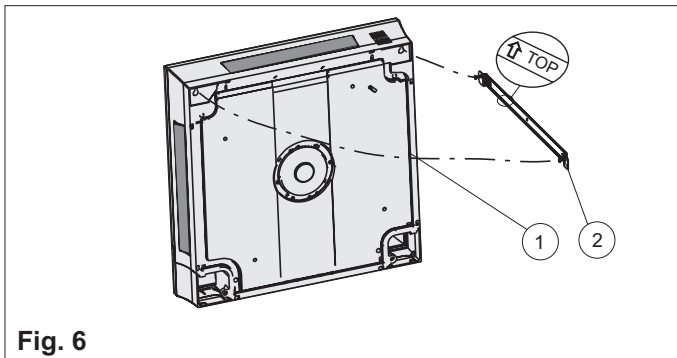

Fig. 6
INSTALLATION OF THE MOUNTING RAIL (see figure 6, 7)
1. Figure 6 shows the location of the mounting rail, as related to the unit.
5. Open and remove the front panel (1).